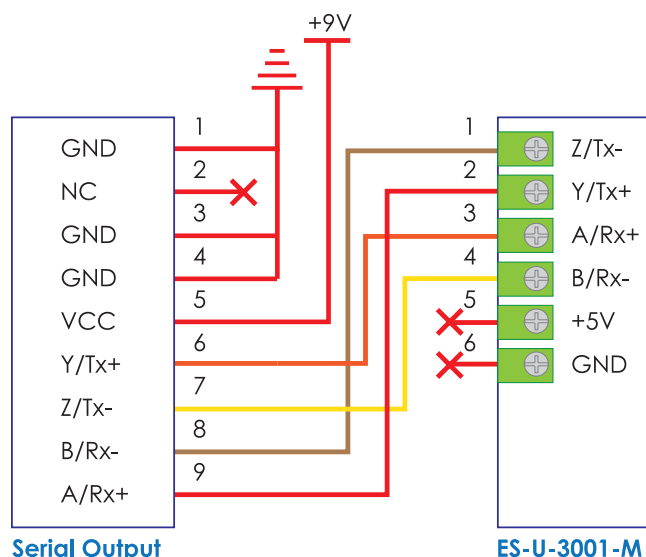

Figure 20. Connection custom cable and ES-U-3001-M converter
2. Connect the custom cable with sensor cord and ES-U-3001-M converter as in following connection pinout illustrated in Figure 20.